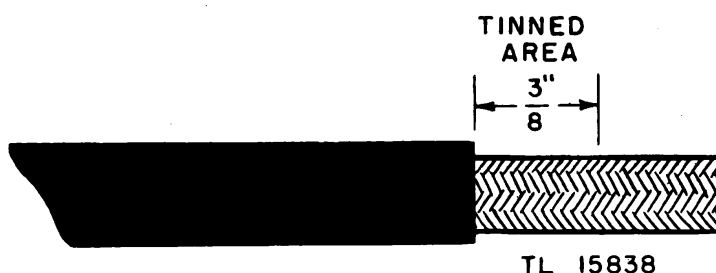

Figure 13. Coaxial cable, with braid tinned.
d. Tin the braided shield lightly for $\frac{3}{8}$ inch from the end of the vinyl jacket (fig. 13). The solder keeps the copper shield from spreading, but any excess solder will prevent assembly of the plug in paragraph 18g(2).